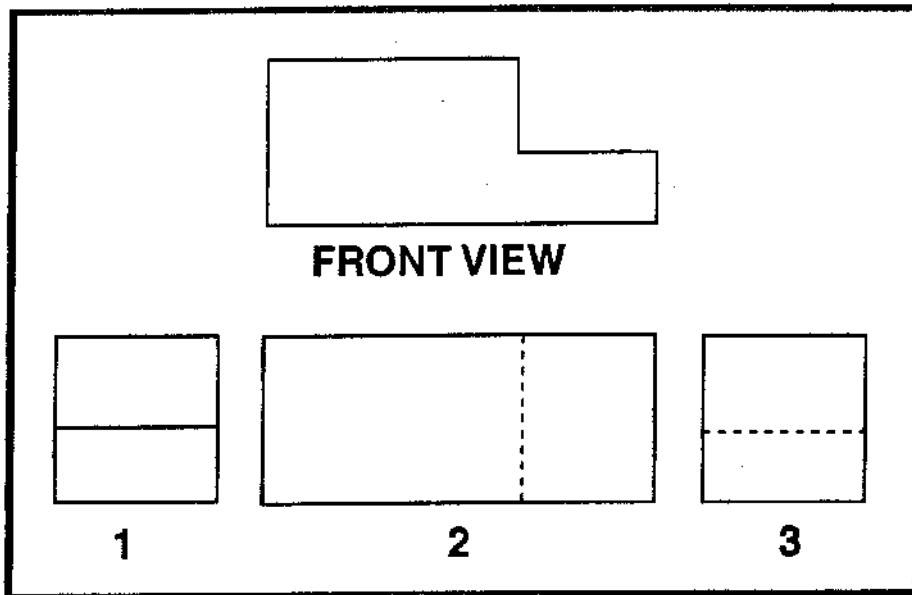

Fig.3.2. Object Views.
4. (Refer to figure 3.2) Identify the left side view of the object shown.